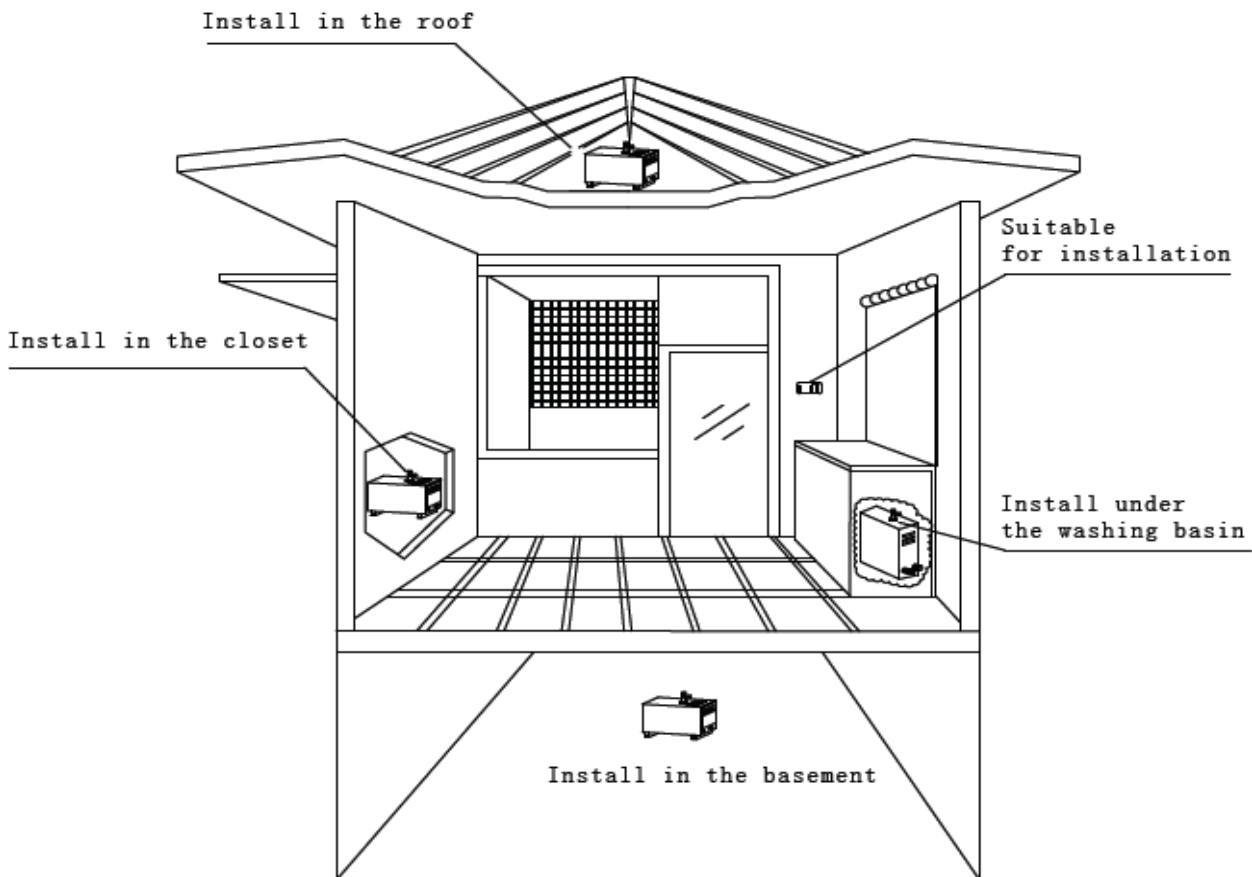

Figure 1: Location of Installation
- A. The steam generator should be installed in a dry, well ventilated location, and provided adequate drainage. You can install the steam generator under a closet, attic, shelf, or basement. And it must be locked without movement. Please See Figure1.